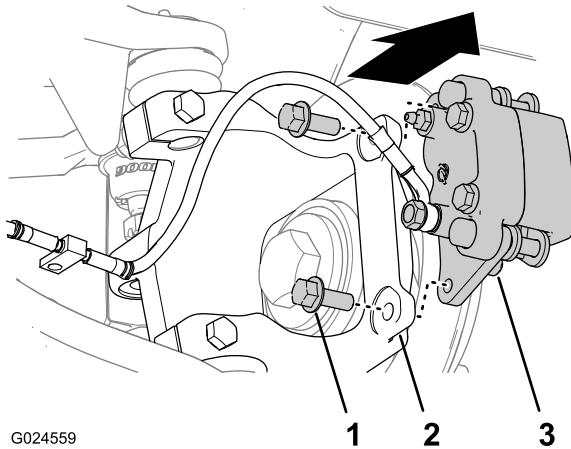

Figure 17
1. Remove the 2 flange bolts that secure the brake caliper to the steering knuckle (Figure 17).
2. Slide the brake caliper rearward until the brake pads clear the brake rotor (Figure 17).